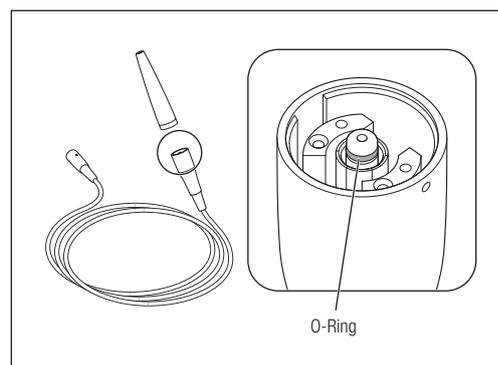

Fig. 44
- 2) Remove the O-ring to be replaced using a needle, etc (Fig. 44).